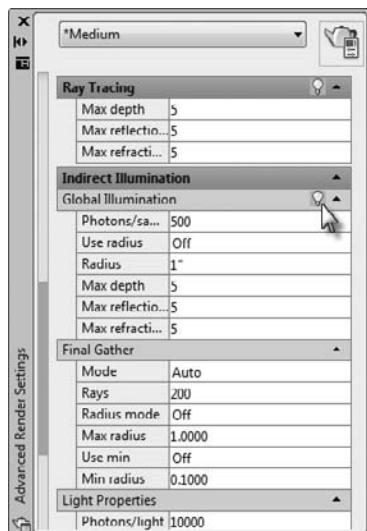

FIGURE 17.21 Turning on Global Illumination
8. Open the Advanced Render Settings palette again, and then click the lightbulb icon next to Global Illumination in the Indirect Illumination drop-down list (see Figure 17.21).